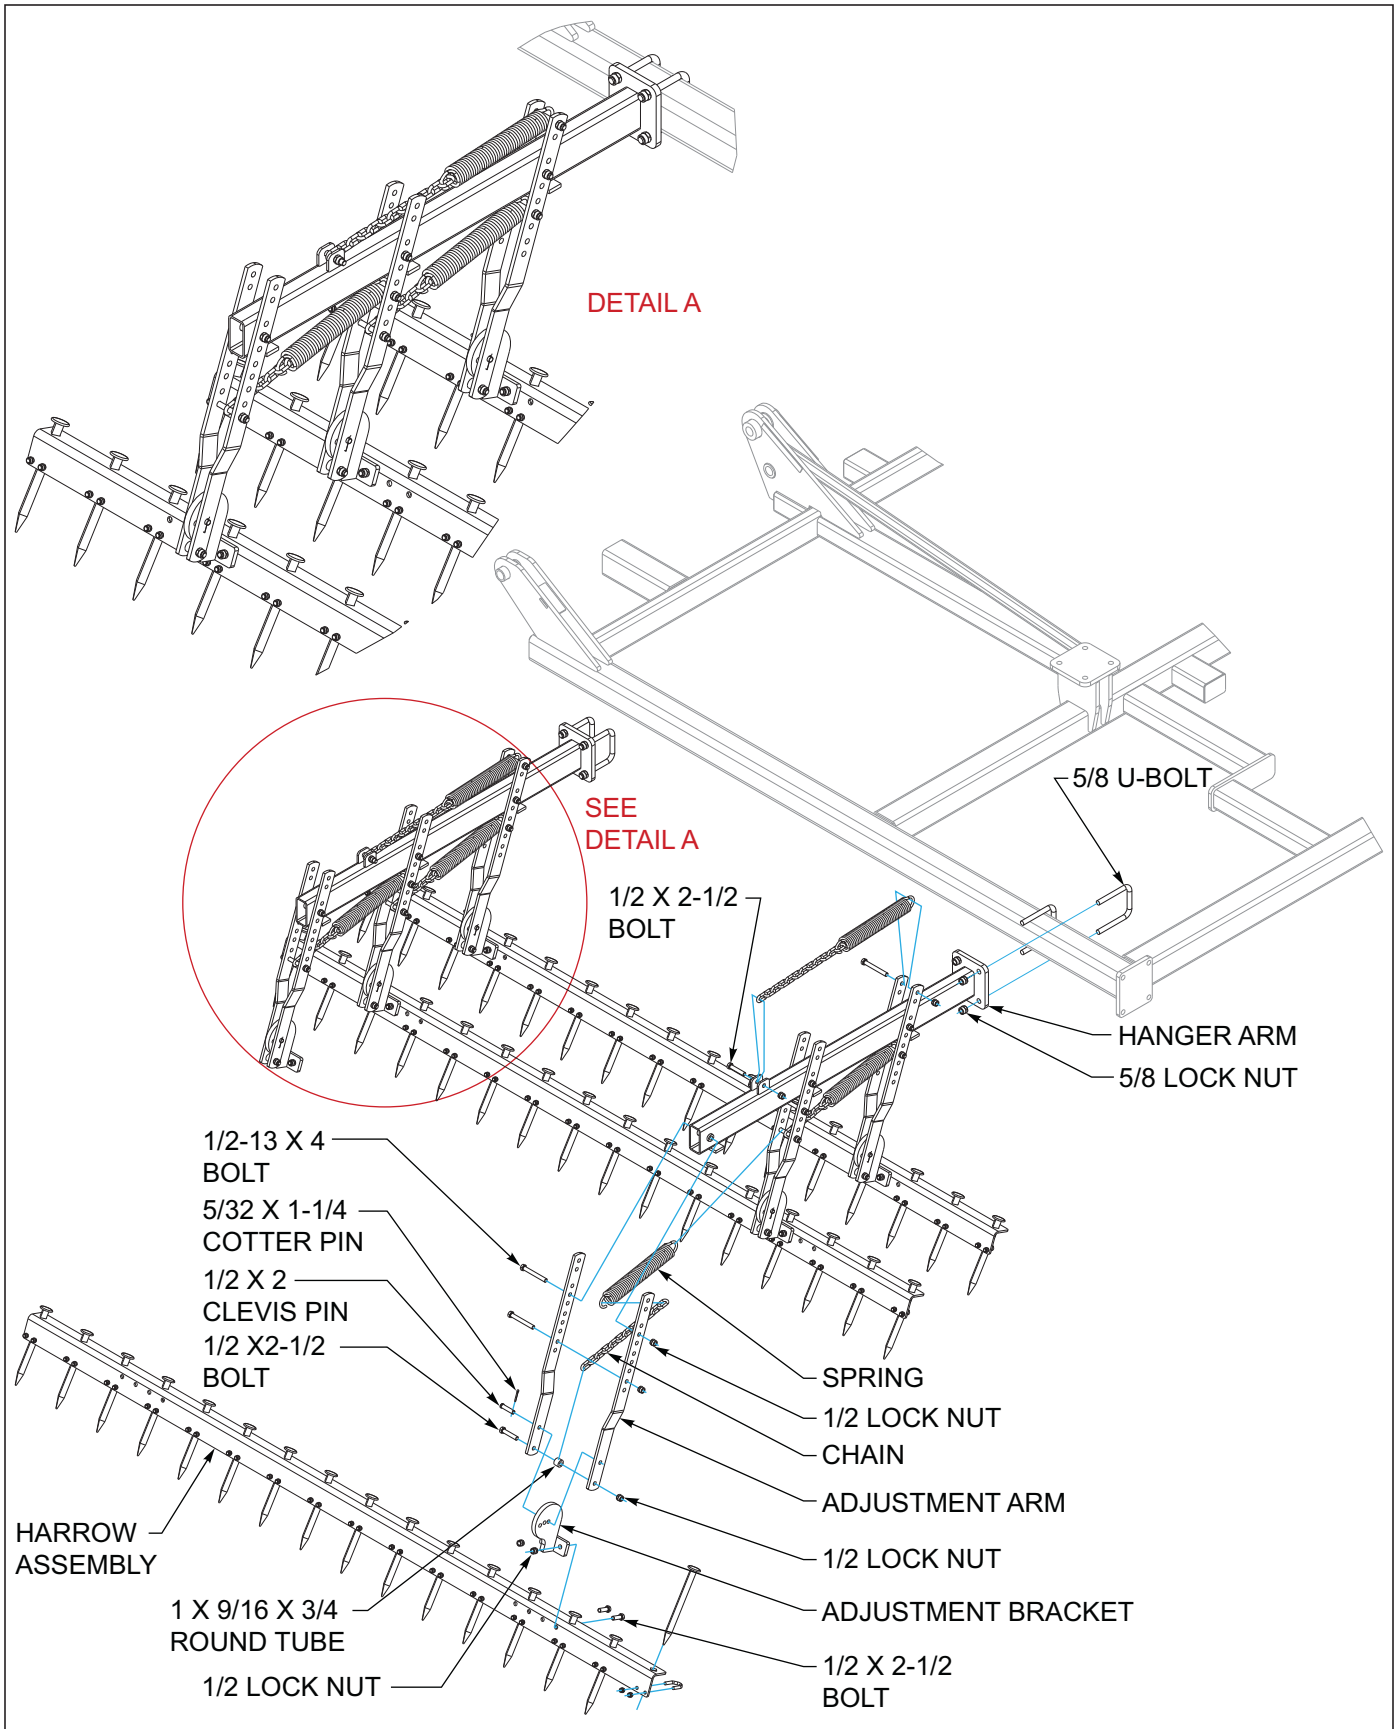

Figure 3-27: Harrow Assembly Installation
1. Install harrow hanger arms to rear of frame using u-bolts and 5/8 lock nuts *See Figure 3-27 and See Figure 2-18 through 2-23 for location on frame.*
4. Install harrow springs and chains as shown in *See Figure 3-27* using 1/2 x 4 bolts and hex 1/2 lock nuts. The top spring is anchored in the 1st hole from the top. Front lower *spring and rear lower* spring are anchored in the 7th hole from the top of the harrow arm. Upper chain is anchored through the enlarged link with a 1/2x 2-1/2 bolt and 1/2 lock nut and hooked on the spring in the 8th link from the bolt. Lower chains are anchored in the second from bottom harrow arm hole and hooked on the spring in the 4th link from the screw.